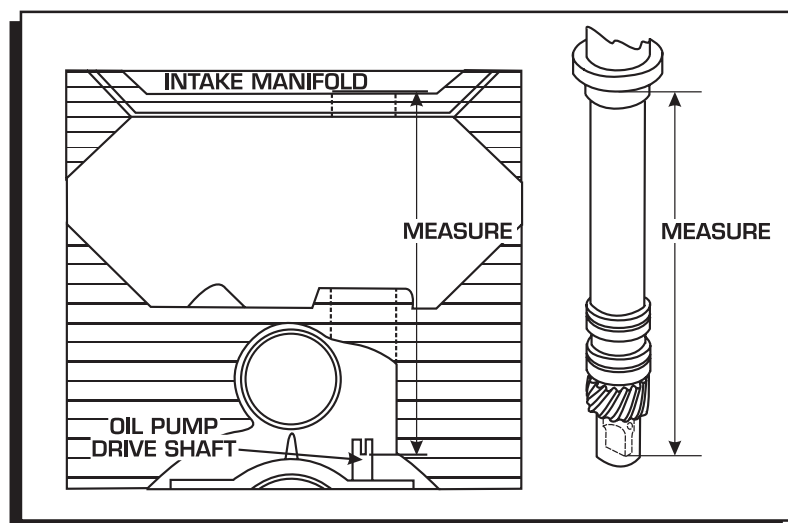

Figure 10 Measuring Oil Pump Shaft Overlap.
1. Measure the distance between the base of the slip collar to the tip of the distributor shaft (Figure 10).
2. Using a straight edge, measure the distance from the intake manifold distributor flange to bottom groove on the oil pump shaft (Figure 10).